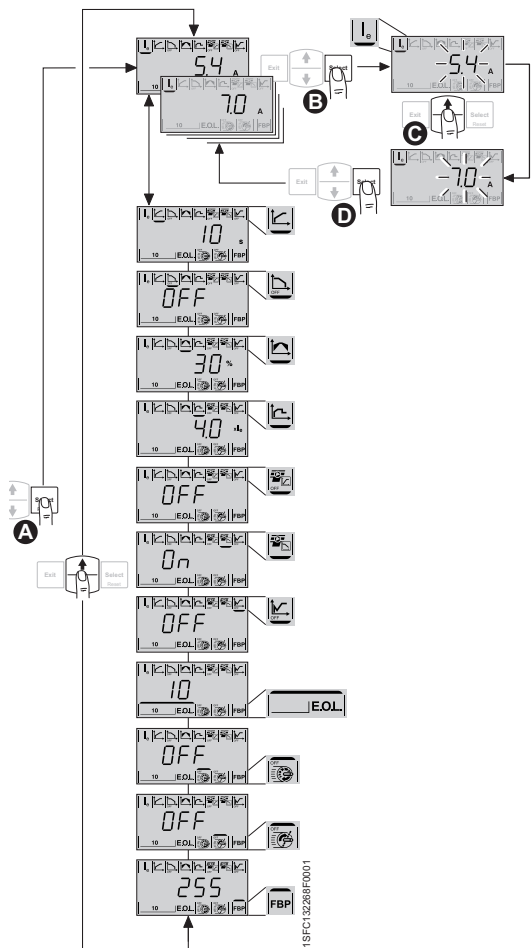

Figure 2.3:
10. Continue to configure parameter I_0 as described in figure 2.3. Complete information about configuration is available in Chapter 6 Human-Machine Interface (HMI) and Chapter 7 Functions and configuration.